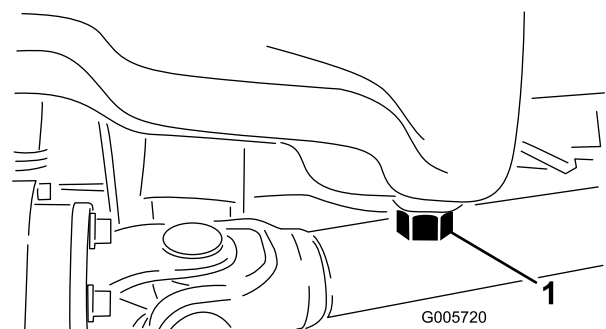

Figure 46
2. Open the hood. Set drain pan under the oil pan and in line with drain plug (Figure 46).